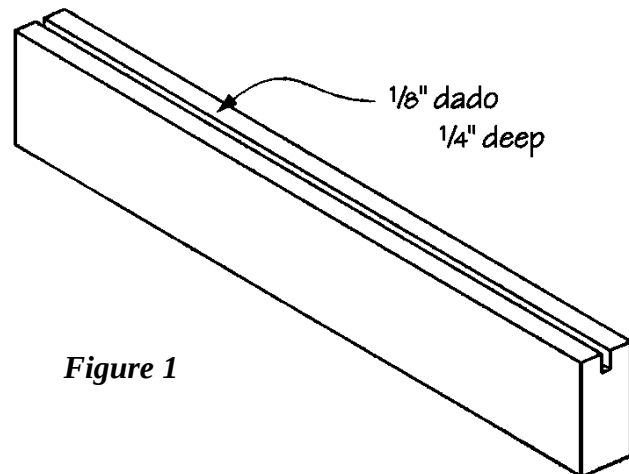
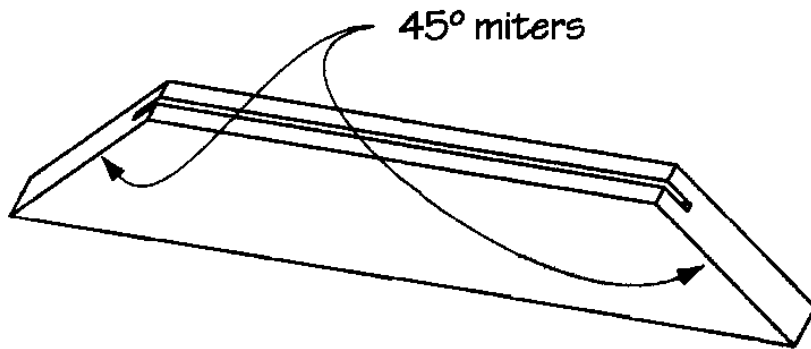

Figure 1
Figure 2
- Each of the two sides of the cabinet, and the door is a 1 x 2 frame which has been slotted in the center in the center to accommodate a piece of glass. Dado a total of 18 linear feet of 1 x 2 pine down the center of one edge the width of a saw kerf (about 1/8") and ¼" deep, as shown in *Figure 1*. This may be done with a circular saw with a ripping fence, a table saw, or a router with a 1/8" straight cutter.
- Cut four vertical sides (A) from the dadoed 1 x 2 pine, each measuring 22 inches long.
- Miter each end of the four vertical sides (A) at opposing 45-degree angles, as shown in *Figure 2*. Make certain that the dadoed edge is on the short side of each piece.
- Cut four horizontal sides (B) from the dadoed 1 x 2 pine, each measuring 8-1/2 inches long.
- Miter each end of the four horizontal sides (B) at opposing 45-degree angles, as shown in *Figure 2*. Again, make certain that the dadoed edge is on the short side of each piece.
2. Cut two door sides (G) from the remaining dadoed 1 x 2 pine, each measuring 21-7/8" long.
3. Miter each end of both door sides (G) at opposing 45-degree angles, as shown in *Figure 2*. Make certain that the dadoed edge is on the short side of each piece.
4. Cut two door top/bottoms (H) from the dadoed 1 x 2 pine, each measuring 17-7/8" long.
5. Miter each end of both door top/bottoms (H) at opposing 45-degree angles, as shown in *Figure 2*. Again, make certain that the dadoed edge is on the narrow side of each piece.